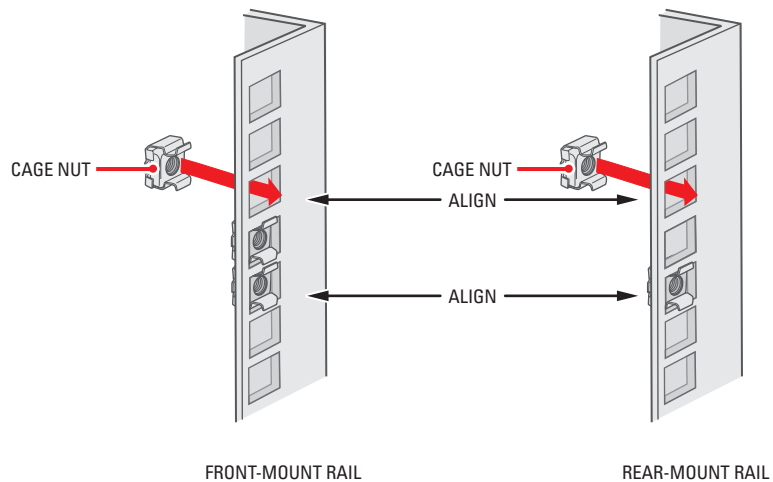

Figure 10. Inserting Cage Nuts
4. If you are installing the unit into a square-hole rack, continue with this step; otherwise, skip this step and proceed to step 5. Insert 10 cage nuts into the square-hole rack (refer to Figure 10). Align the top and bottom cage nuts on the front racks with the top and bottom cage nuts on the rear racks.